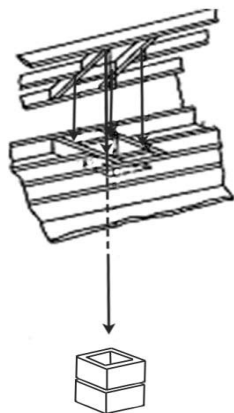

Figure 23. Roof Penetration
F. Measure to all sides of the nail and mark the required opening, and then cut a hole in the roof. Remember that the hole is measured on the horizontal, and then projected to the roof. The hole may then be larger, depending on the pitch of the roof. See Figure 23.
E. Measure to all sides of the nail and mark the required opening, and then cut a hole in the roof. Remember that the hole is measured on the horizontal, and then projected to the roof. The hole may then be larger, depending on the pitch of the roof. See Figure 23.